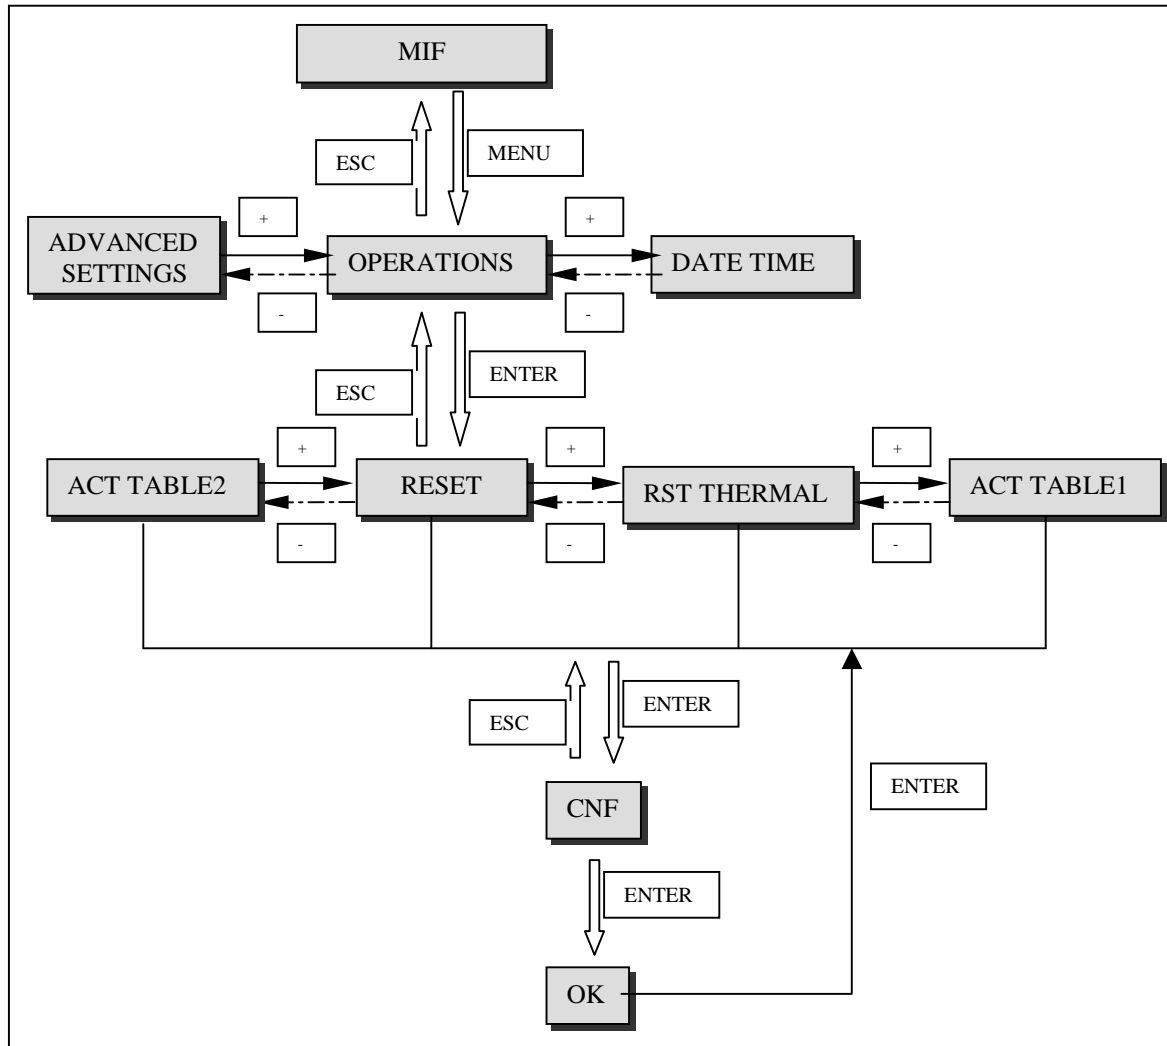

Figure 8.13. KEYPAD AND DISPLAY USE IN THE OPERATIONS MENU
The mnemonics in figure 8.13 stand for:
To reset the Thermal Image Unit using the faceplate keypad and display follow the flow chart shown in figure 8.13. Look for the **RST THERMAL** heading in the display. Press **Enter**. A confirmation message will be shown, CNF. To confirm that you really want to reset the Thermal Image Unit press **Enter**. The thermal Image unit will be reset and the message **OK** will be shown to point out that the operation has been executed successfully. To return to the second level press **Enter**, as figure 8.13 indicates.
2. Follow figure 8.13 and look for the **RST LEDS** message in the display. Press **Enter**. The confirmation message will be shown **CNF**. Press **Enter** to confirm that you really want to reset the LEDs. All Target LEDs will be reset and the message **OK** will be shown, to point out that the operation has been performed successfully. To return to the second level, press **Enter**.